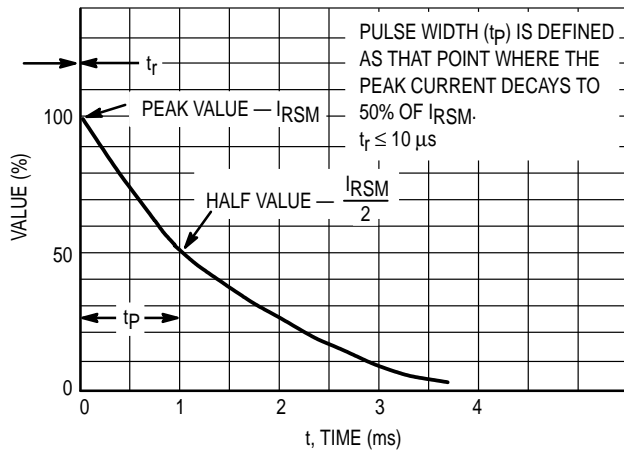
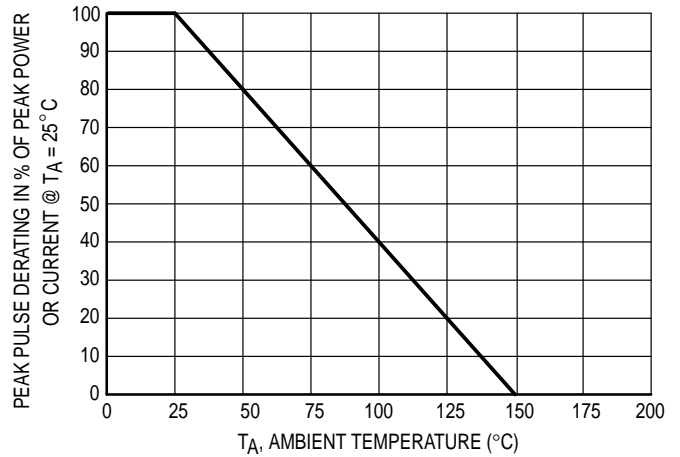

Figure 5. Pulse Waveform
Figure 6. Pulse Derating Curve
- Peak Power — 24 or 40 Watts @ 1.0 ms (Unidirectional), per Figure 5 Waveform
(1) Non-repetitive current pulse per Figure 5 and derate above $T_A = 25^\circ\text{C}$ per Figure 6.
(2) FR-5 = 1.0 x 0.75 x 0.62 in.
(3) Alumina = 0.4 x 0.3 x 0.024 in., 99.5% alumina
(3) V_Z/V_{BR} measured at pulse test current I_T at an ambient temperature of 25°C .
(4) Surge current waveform per Figure 5 and derate per Figure 6.
(5) Z_{ZT} and Z_{ZK} are measured by dividing the AC voltage drop across the device by the AC current supplied. The specified limits are $I_{Z(AC)} = 0.1 I_{Z(DC)}$, with AC frequency = 1 kHz.